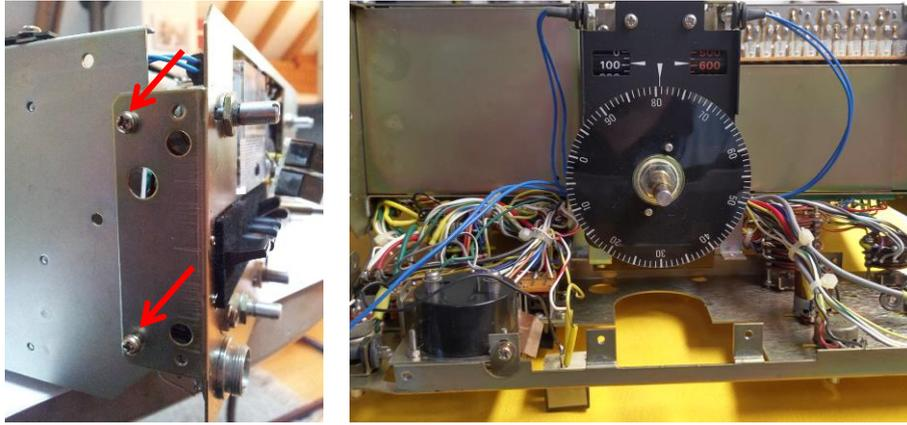

Figure 9
- Remove the 4 screws (two on the left and two on the right) on the front cabinet and fold it forward by 90°. Make sure that no wires break off. (see Figure 9)